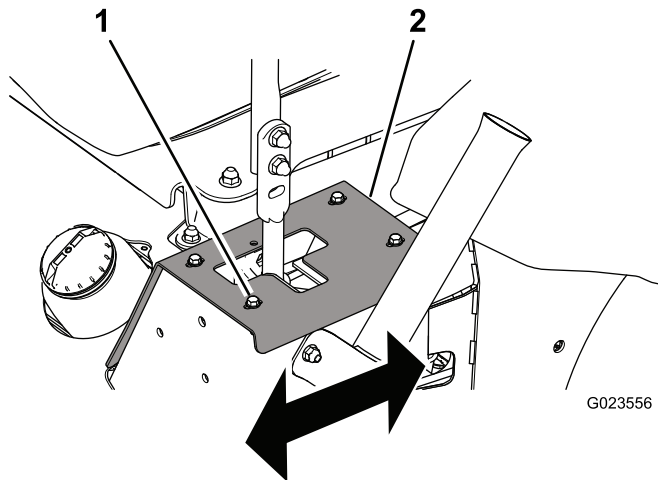

Figure 54
- If it tracks to the right, loosen the bolts and adjust the left stop plate rearward until the machine tracks straight (Figure 54).
- If it tracks to the left, loosen the bolts and adjust the right stop plate rearward until the machine tracks straight (Figure 54).
1. Bolt (4)
3. Tighten the bolts to secure the stop plate (Figure 54).